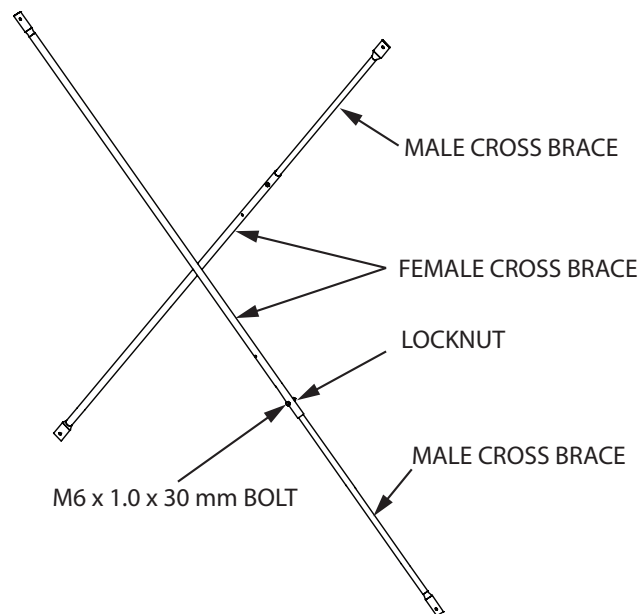

FIGURE 9
- Locate the (8) male cross braces (TP132) and the (8) female cross braces (TP131). Insert the male cross braces into the female cross braces.
- Using (8) provided M6 x 1.0 x 30 mm bolts and locknuts, secure the cross braces in the hole location listed in **FIGURE 9**. When assembled together, all eight cross brace assemblies should measure approximately 88-3/4" from end to end.